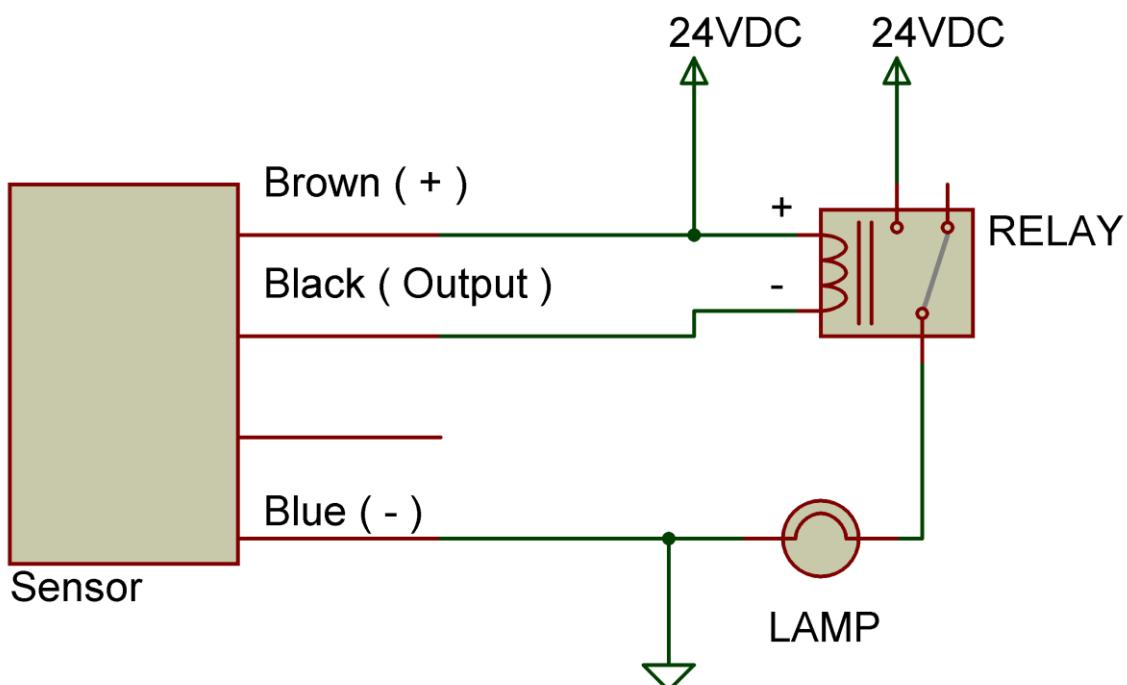

Figure 19: NPN Sensor circuit diagram (1 Sensor)
1. Make a photoelectric sensor circuit according to the circuit diagram shown in Figure 19.